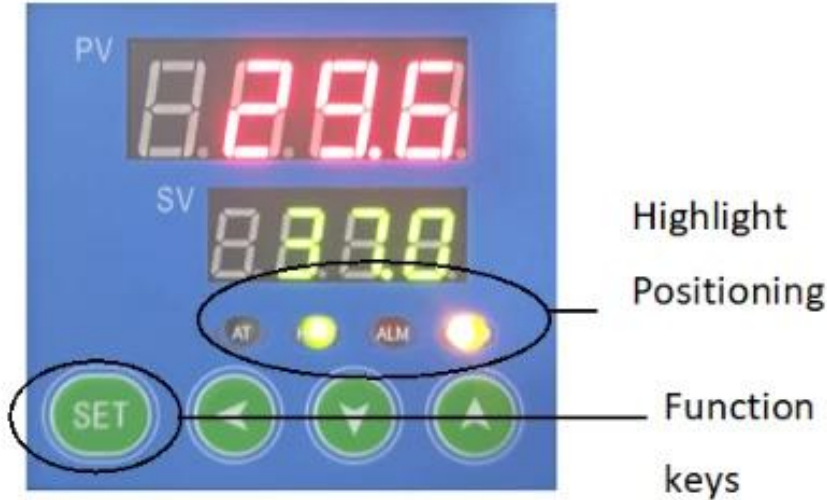

Figure 5
- 3.1 See Figure 5 Click "SET" key, The PV screen displays "  ", SV screen displays the set temperature value.